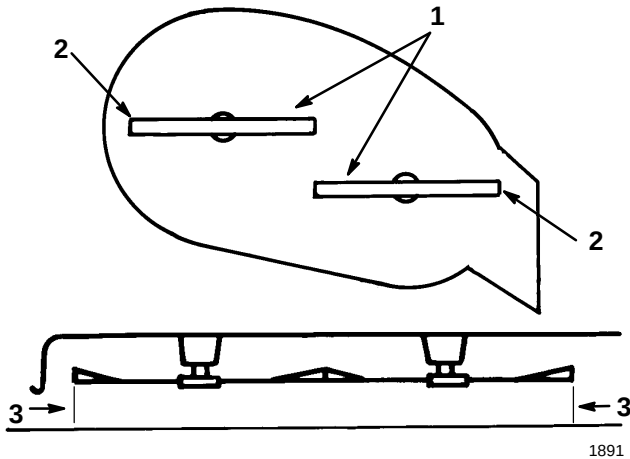

Figure 49
4. Carefully rotate blade(s) side to side (Fig. 49). Measure between the outside cutting edges and the flat surface (Fig. 49). If both measurements are not within $\frac{3}{16}$ " (4.8 mm), an adjustment is required; refer to steps 5 and 6.